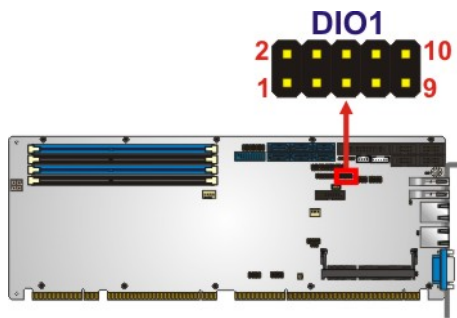

Figure 3-7: Digital I/O Connector Location
- CN Location:** See **Figure 3-7**